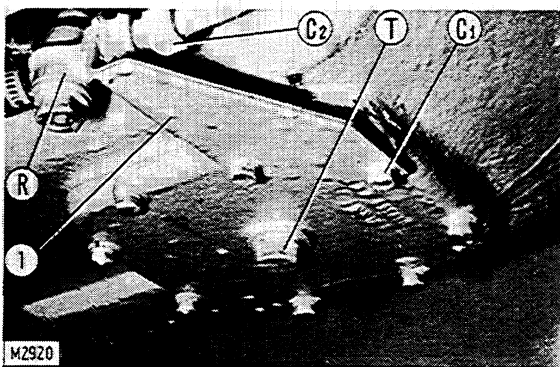

Fig. 6 - Bottom view of oil pan on S15B excavator.
- Remove screws (C₁) and detach drain tap bracket (1, fig. 6).